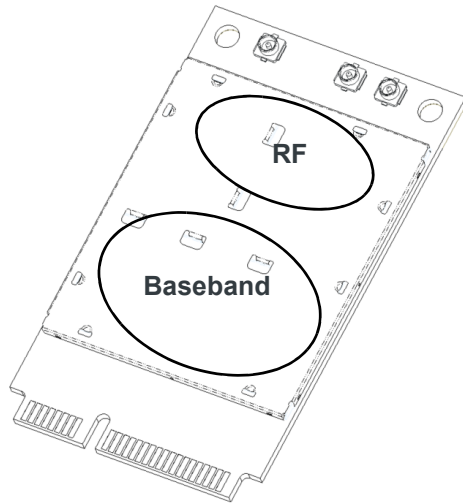

Figure 6-1: Shield locations requiring heat dissipation (Top view)
Specific areas requiring heat dissipation are shown in Figure 6-1:
- Monitor temperature on the underside of the module. Attach thermocouples to the areas indicated in Figure 6-1 on page 52 (Baseband, RF).